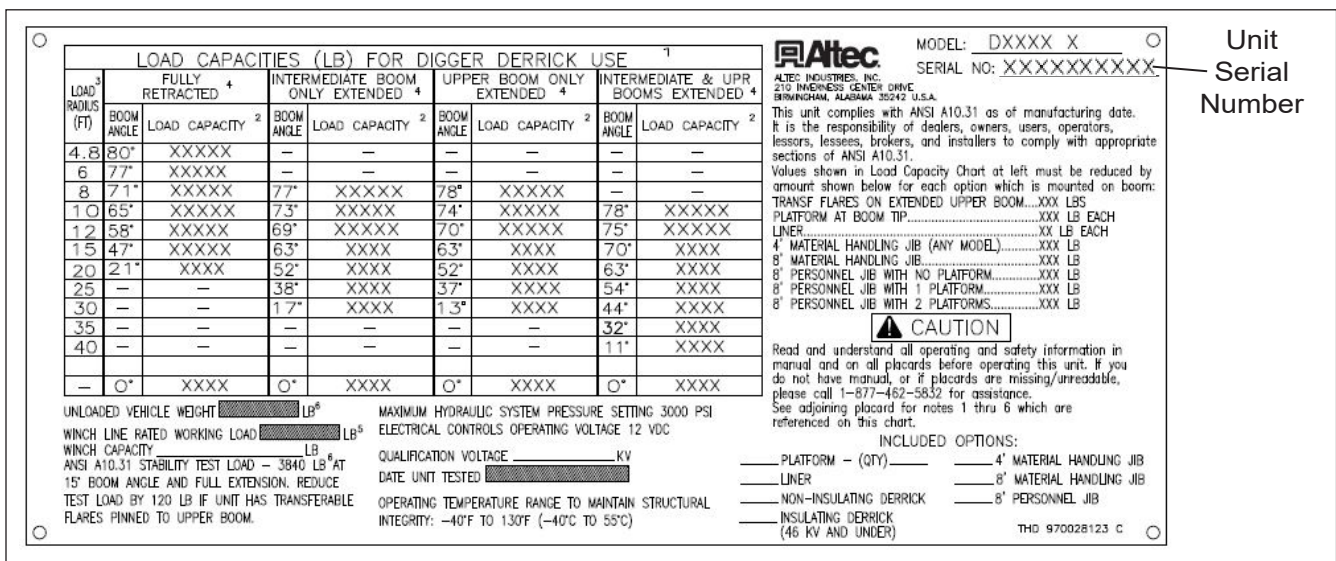

Figure 12 – Derrick Capacity Chart
- e. If the gearbox is installed on a unit, make note of the unit serial number located on the derrick capacity placard near the lower controls (refer to Figure 12).